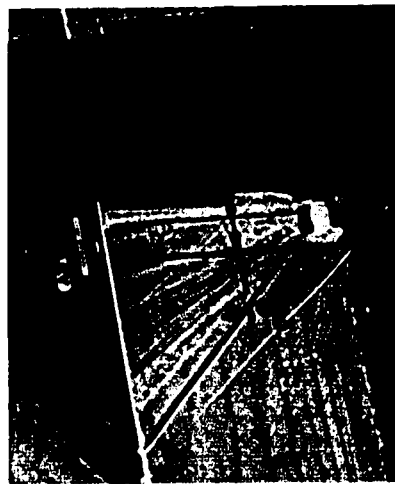

Fig. 66A-10. Cutting Tips
2. Using the miter box, cut the tenite rod in half. Use a clamp to hold the rod while cutting. See Fig. 66A-10.